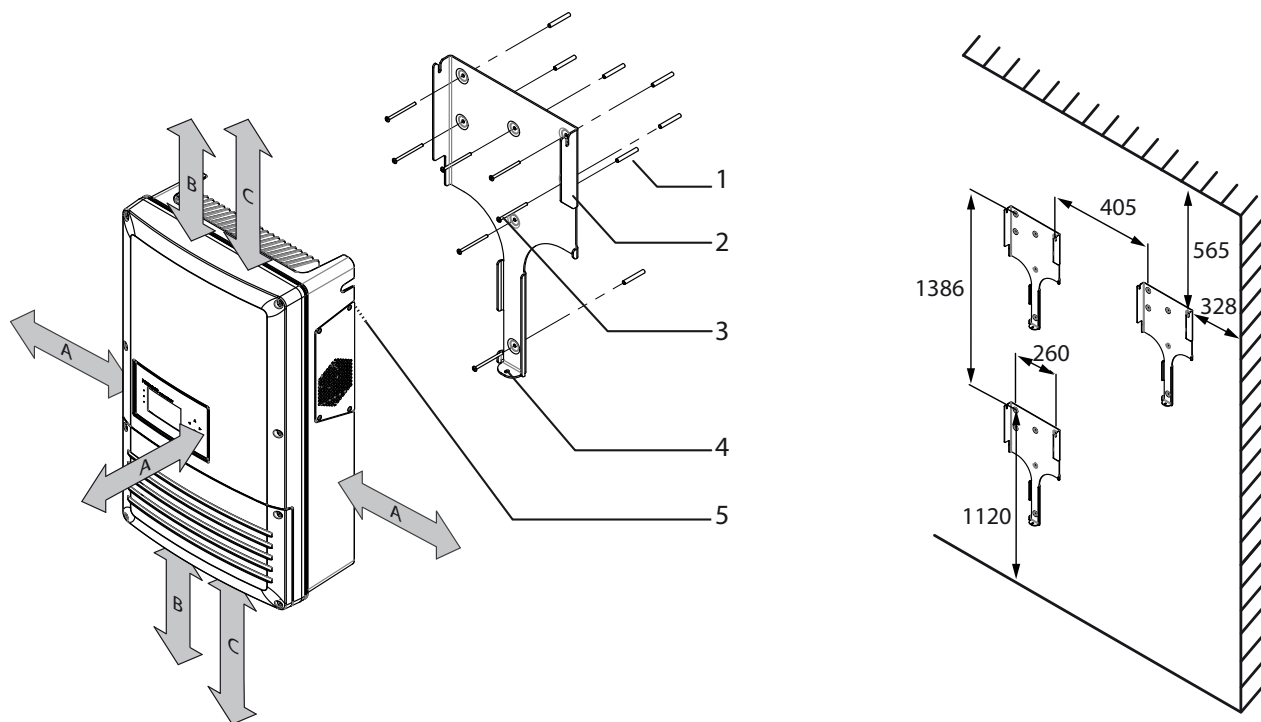

Figure 5: Minimum clearances/mounting plate
- Minimum clearances to be observed during assembly: see Figure 5 on page 17.